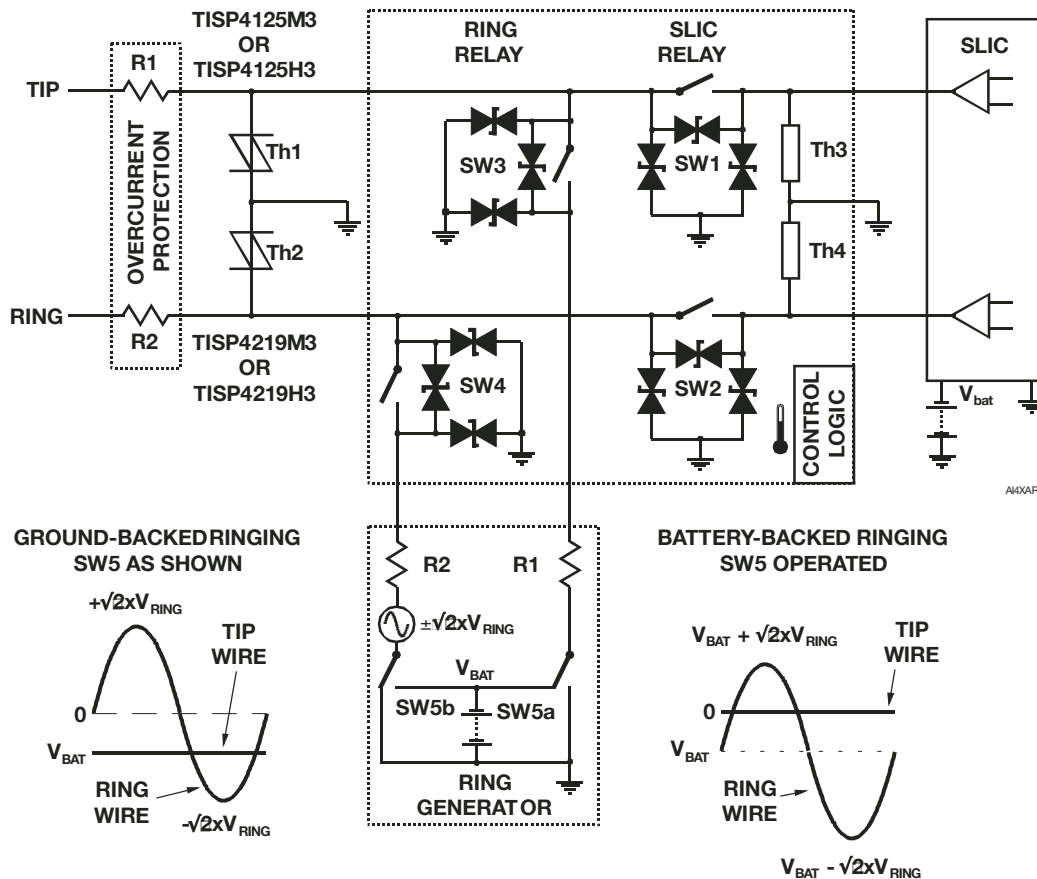

Figure 13. LCAS Shown with Switch Breakdown Limits
Figure 13 shows the LCAS switch voltage ratings as breakdown diodes, which must not be allowed to conduct. Each switch has three diodes; one between poles and the other two from each pole to ground. At 25 °C, switches SW1 through to SW3 have breakdown diode voltages of ± 320 V. Switch SW4 has breakdown diode voltage values of ± 465 V for the one between poles and ± 320 V for the two diodes connected to ground. Note that only protection to ground is required, as in the limit, the inter-switch voltage limitation of ± 640 V is the same as the switch to ground limitation of ± 320 V and -320 V in both polarities.
- ground-backed and battery-backed ringing configurations (see Figure 13).